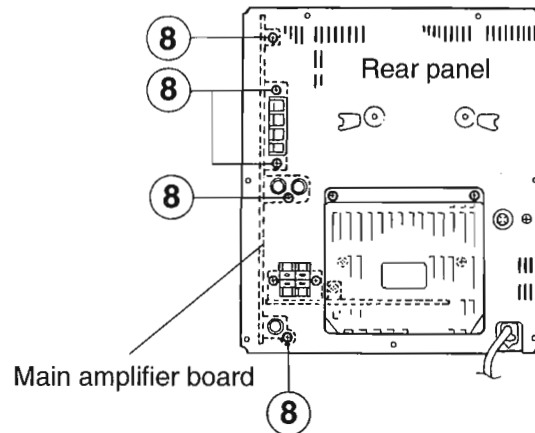

Fig. 3-14
■ Removal of the Main Amplifier Board (See Figs. 3-14, 15)
5. Remove the five screws ⑧ fastening the main amplifier board to the rear panel assembly.
(See Fig. 3-14)